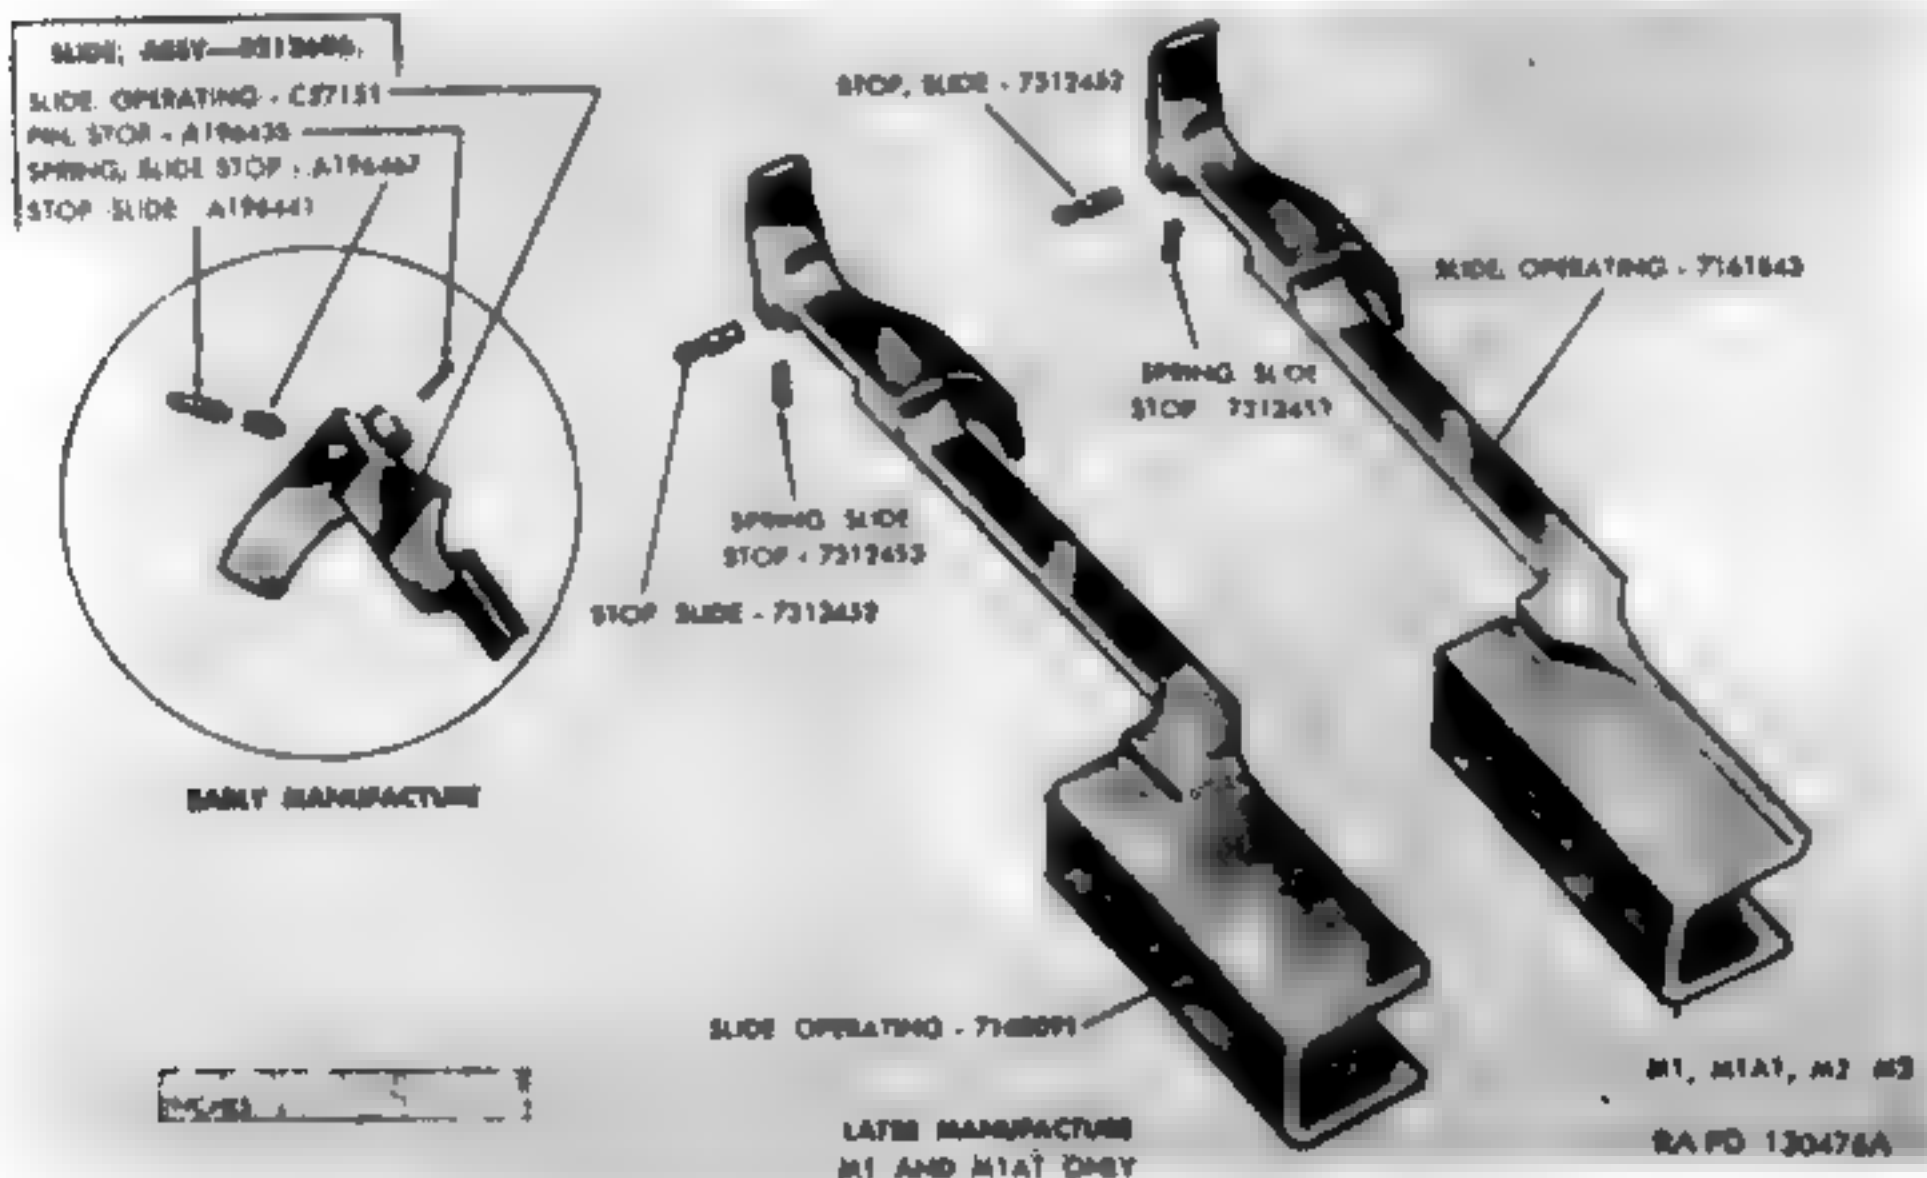

Figure 57. Operating slide assembly.
*a. Operating Slide* (Fig. 57). Check slide for bent or cracked rear bar, deformation, excessively worn guide lugs, burrs, and corrosion. Inspect bolt camming lug recess for wear and burrs. Inspect spring guide seating recess in rear face for wear, burrs, and foreign matter. Inspect front race of
## b Operating Slide Stop and Stop Spring (Fig. 57).